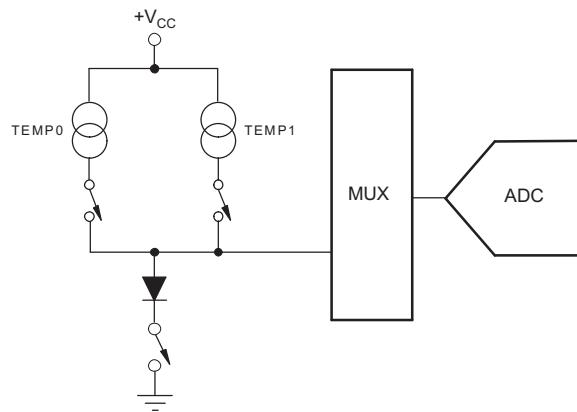

Figure 6. Temperature Measurement Functional Block Diagram
In some applications, such as battery recharging, a measurement of ambient temperature is required. The temperature measurement technique used in the TSC2046E relies on the characteristics of a semiconductor junction operating at a fixed current level. The forward diode voltage (V_{BE}) has a well-defined characteristic versus temperature. The ambient temperature can be predicted in applications by knowing the $+25^{\circ}\text{C}$ value of the V_{BE} voltage and then monitoring the delta of that voltage as the temperature changes. The TSC2046E offers two modes of operation. The first mode requires calibration at a known temperature, but only requires a single reading to predict the ambient temperature. A diode is used (turned on) during this measurement cycle. The voltage across the diode is connected through the MUX for digitizing the forward bias voltage by the ADC with an address of A2 = 0, A1 = 0, and A0 = 0 (see Table 1 and Figure 6 for details). This voltage is typically 600mV at $+25^{\circ}\text{C}$ with a $20\mu\text{A}$ current through the diode. The absolute value of this diode voltage can vary by a few millivolts. However, the temperature coefficient (TC) of this voltage is very consistent at $-2.1\text{mV}^{\circ}\text{C}$. During the final test of the end product, the diode voltage would be stored at a known room temperature, in memory, for calibration purposes by the user. The result is an equivalent temperature measurement resolution of $0.3^{\circ}\text{C}/\text{LSB}$ (in 12-bit mode).